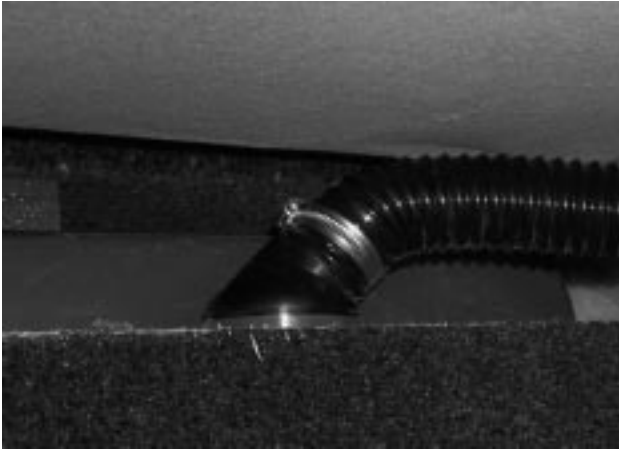

Figure 22: Air outlet/transition duct assembly and flex tube installation
- 5) Insert the flex tube and assembly through the hole in the ceiling, making sure the transition part of the assembly points towards the rear of the coach. Push the assembly fully home. This installation is press-fit (see Figure 22).